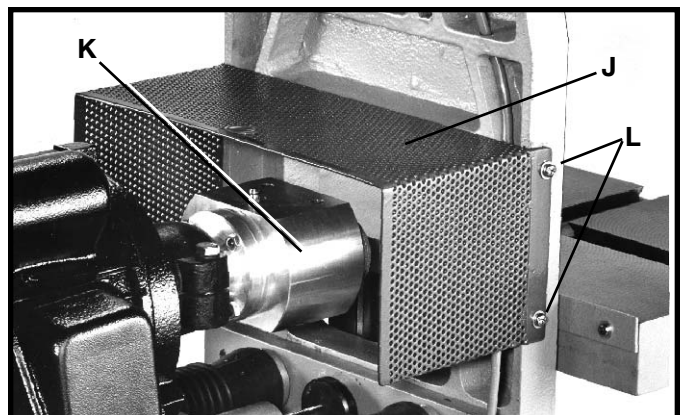

Fig. 21
7. Assemble safety shield (J) Fig. 21, over boring head (K) with four screws, two of which are shown at (L).